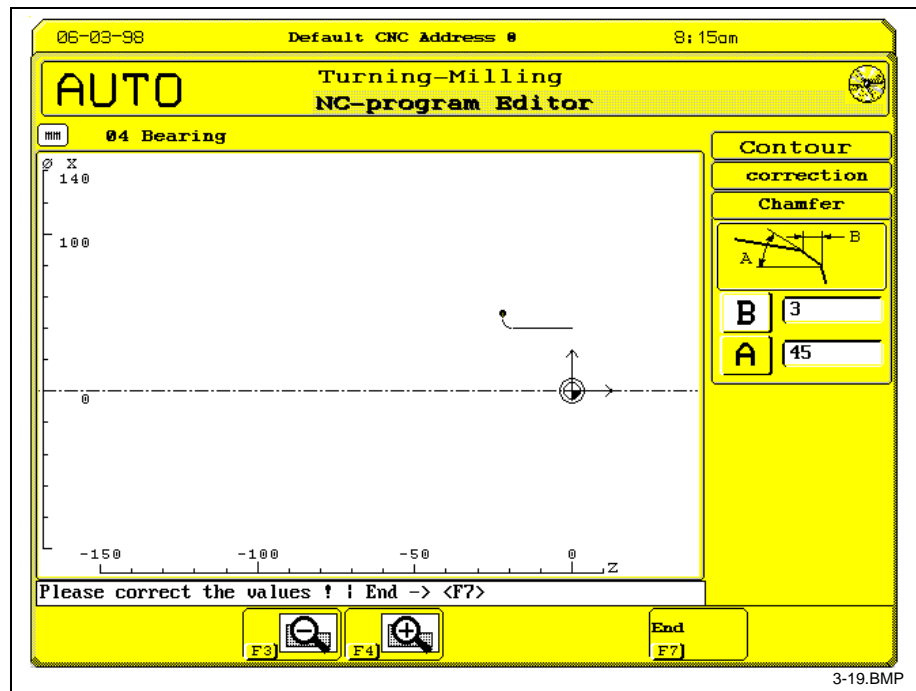

Fig. 3-19: Transition element correction
- Transition elements** The transition element to be corrected (corner rounding, chamfer, relief groove) is selected via soft key <F6> or <F7> (see Fig. 3-19) . The operation is terminated by pressing soft key <F7>.